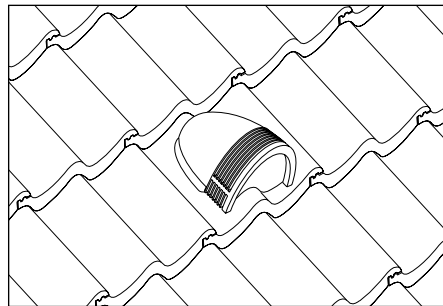

Fig. 3 - Continue tiling
- 9 Lay adjacent tiling in normal manner (Fig. 3).